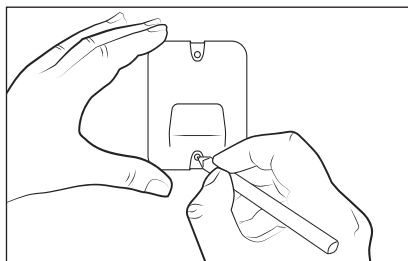

Fig. 3
- 2) Use the wall bracket **10** to mark the two drill holes in the wall (see Fig. 3).